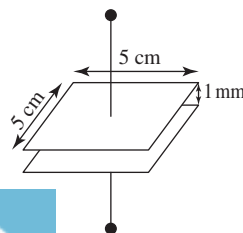

FIGURE 4.3 Capacitor for Example 4.1.
A parallel-plate capacitor has dimensions as shown in Figure 4.3. The dielectric is air, that is, $\epsilon_r = 1$. Find the total capacitance.
a. For $v(t) = 5 \text{ V}$, $\frac{dv(t)}{dt} = 0$; therefore $i(t) = 0$. Thus, the capacitor would be equivalent to an open circuit as shown in Figure 4.3 (b).